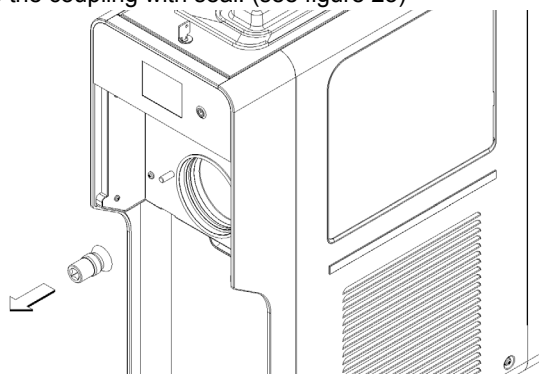

figure 25
10 Remove the coupling with seal. (see figure 25)
- 2** Lubricate the tap piston, the scraper fitting and the front of the scraper in the points indicated in Figure 25 using only the grease provided with the machine or other grease for foodstuff.